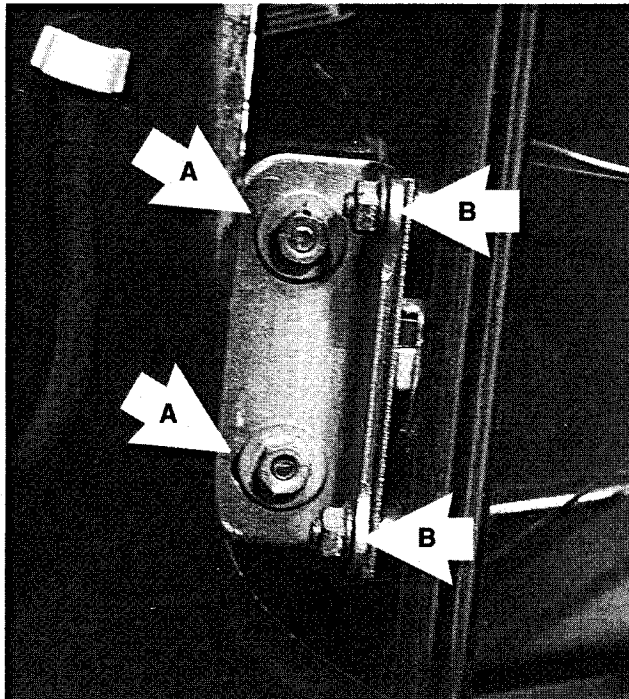

Fig. 10. Window rear guide bracket nuts **A** to be removed. Loosen nuts **B** to allow bracket room to swivel out of the way.
- Raise window to about 10 in. (250 mm). If necessary, temporarily reconnect battery cable. Remove guide bracket mounting nuts and remove bracket. See Fig. 10.